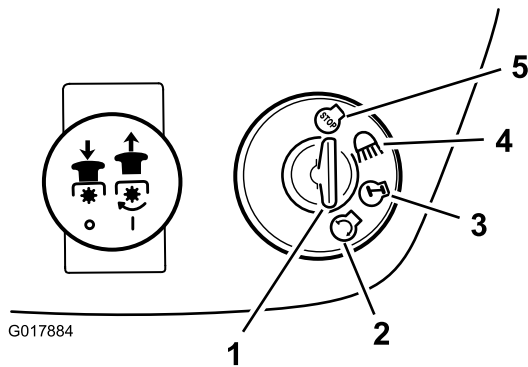

Figure 10
7. Turn the ignition key clockwise and hold it in the Start position (Figure 10).